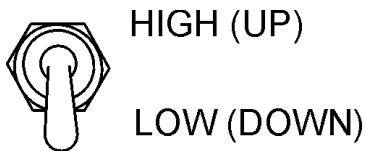

Figure 41. Engine Speed Switch
2. Set the engine speed switch (Figure 41) to the idle (low) position.